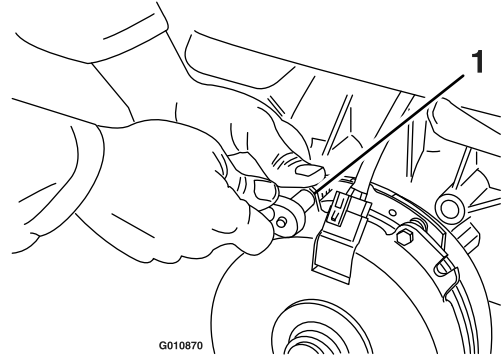

Figure 77
- A. Loosen both brake mounting bolts 1/2 to 1 full turn as shown in Figure 77.